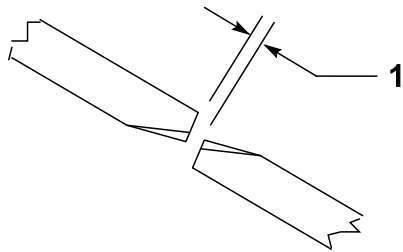

Figure 31
To ensure proper operation of the cutting unit, there must be a 10 to 16 mm (0.38 to 0.62 inch) clearance between the tips of the side and center mower-deck blades (Figure 31).
2. Rotate a center and adjoining side blade so the blade tips are aligned. Measure the distance between the blade tips (Figure 31).